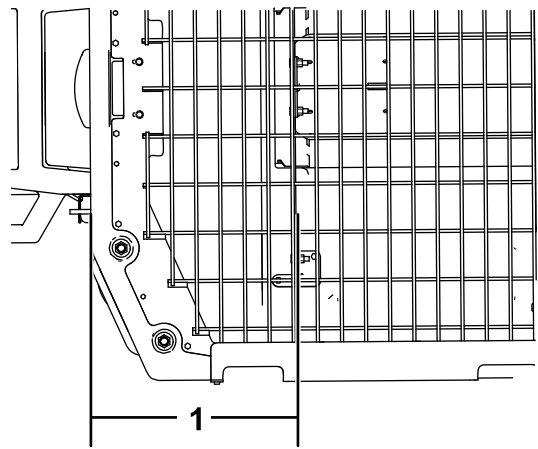

Figure 14
- Starting at the outer edge of the spreader hopper, measure the distance found in step 1 and make a mark on the top screen (Figure 14).